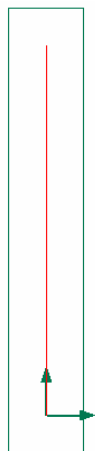

fig 1
2. Draw a vertical line 2" up from the origin to serve as your axis. (fig 1)